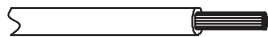

Fig. 17 —Stripping the Wire
2. Strip a suitable length of the insulation layer as shown in Fig. 17 below.